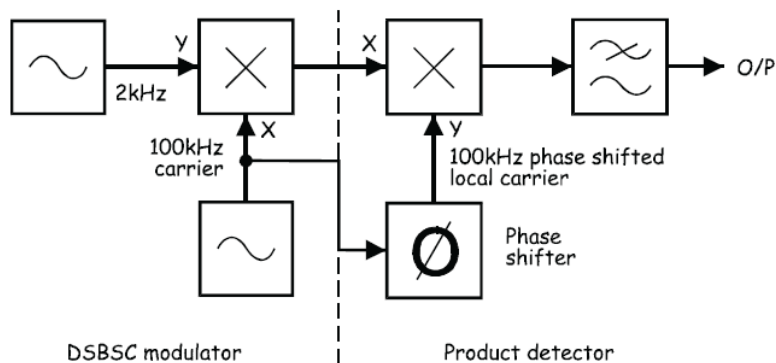

Figure 4.4 Investigation of the effect of phase mismatch.
- e. Modify the set-up as shown in Figure 4.4 below.